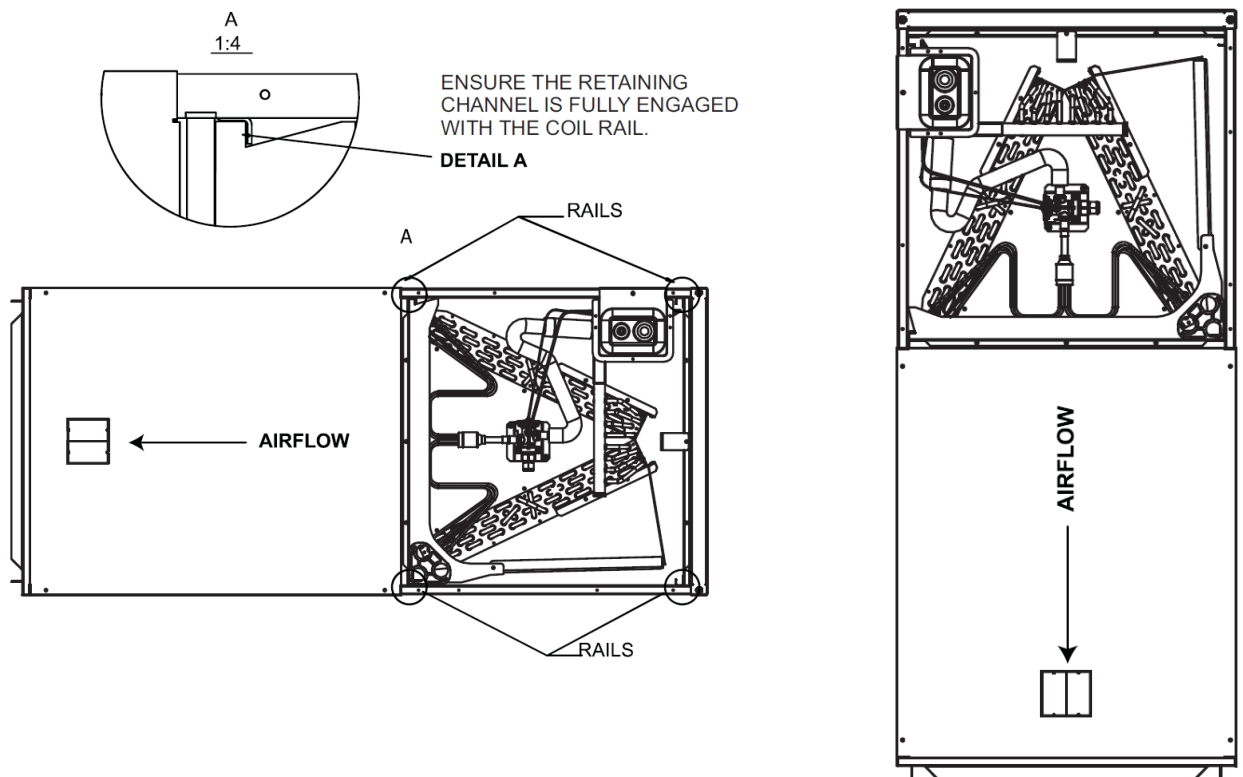

Figure 3-2 Horizontal left-flow and vertical down-flow and application
A vertical up-flow unit may be converted to vertical down-flow. Remove the front panel and take out the indoor coil assembly with drain pan, reinstall 180° from original position (Fig. 3-2 and 3-3).
- Reinstall the indoor coil 180° from original position. Ensure the retaining channel is fully engaged with the coil rail (Fig. 3-2 and 3-3).